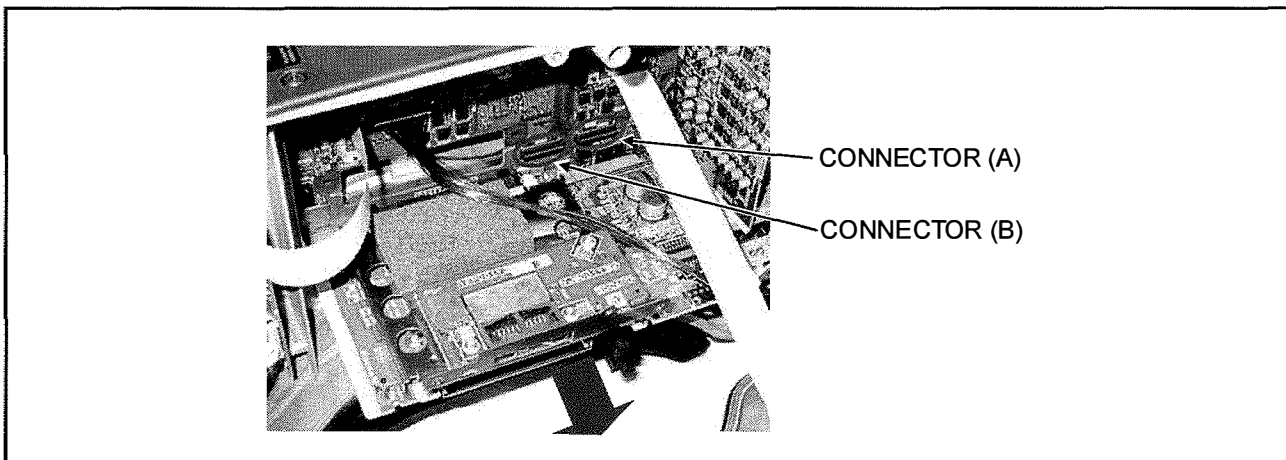

Figure 6-2
5. Disconnect the connector (A) and (B) combined with the DIGITAL MAIN P.C.B. as shown in figure 6-2, and remove the CARD SLOT Unit.